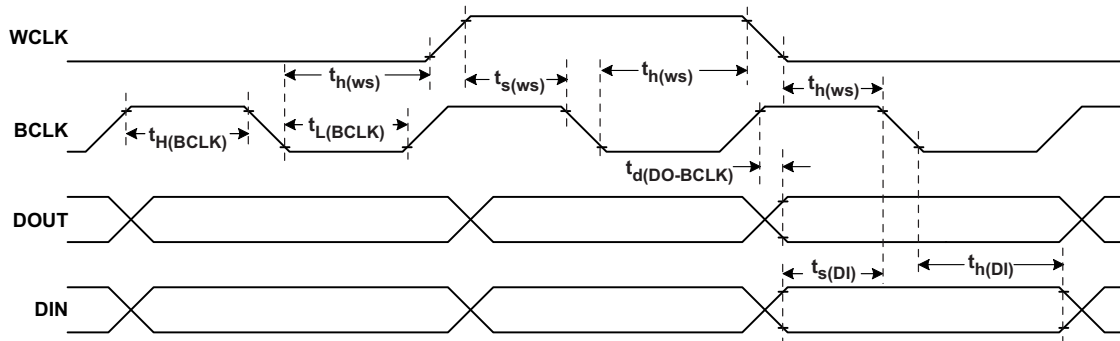

Figure 4. DSP Timing in Slave Mode
8.14 DSP Timing in Slave Mode (see Figure 4)